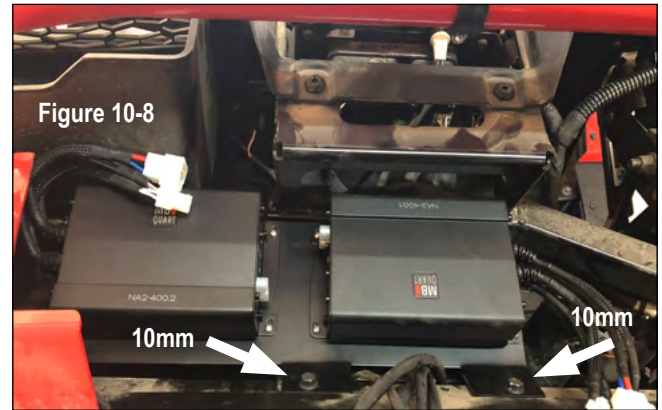

Figure 10-8
With the amplifier(s) mounted to the plate, place it into position as shown in Figure 10-8. Be sure there is free movement of the wiring harness with enough length to connect to the amplifier's onboard connectors.
- **if you have the Dynamix® ECU and/or OEM amplifier bracket** - Loosely fit the remaining two (2) 10mm bolts to check the fit of the dual amp plate. This is shown in Figure 10-8.
- **If NO Dynamix® ECU or OEM amplifier bracket** - Use the two (2) T40 screws provided with the MB Quart Stage 5 kit to check the fit of the dual amp plate.